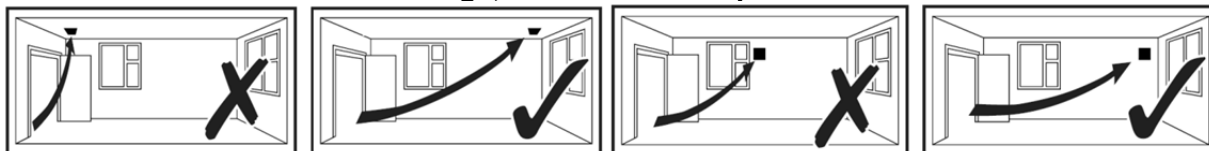

Fig.1: VASF125B/150B
1. Select and follow the appropriate wiring diagram. (Fig. 1,2 or 3)
Single speed fan. Controlled by remote switch (e.g. light switch or auto sensor) Fig.1.